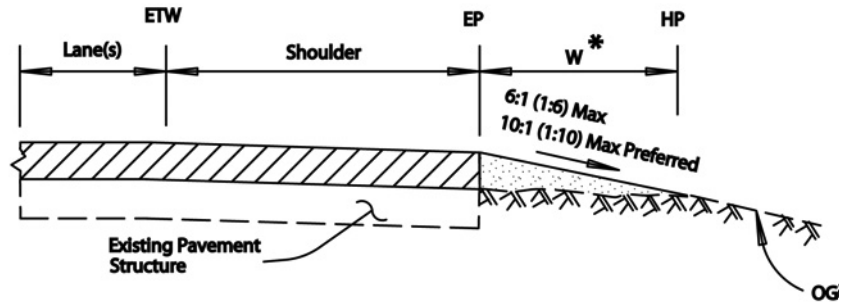

Figure 1
7. **HW:** Hinge Width, horizontal distance from edge of shoulder (ES) to hinge point (See Figure 1)
- a. Shoulder backing should be placed from the edge of pavement (EP) to hinge point (HP). However, where the horizontal distance from EP to HP is greater than 3 ft (1 meter), Shoulder Backing should be placed on a width of at least 3 feet (1 meter) from EP (See Figures 1 and 2)
- b. Shoulder Backing cross slope should be 10:1 (1:10) or flatter where possible. Where there is insufficient width for a 10:1 (1:10) slope, a steeper cross slope can be used but should not be steeper than 6:1 (1:6) (See Figure 1)
The attached Figures 1 through 5 show some examples of what should and should not be done when using Shoulder Backing.